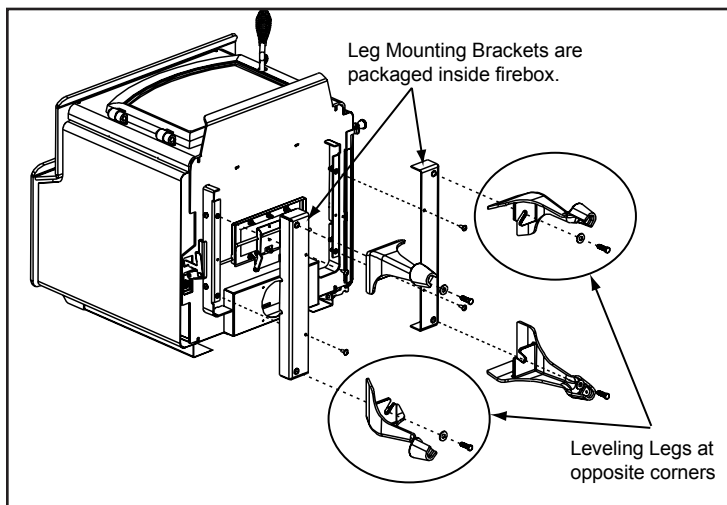

Figure 23.1
3. Loosely assemble bolts into the corner of the mounting brackets for leg attachment. **Figure 23.1**.
4. Slide legs onto mounting brackets making sure the legs are up against the bracket and secure with the bolts supplied. There are leveling bolts in 2 legs. These leveling bolts should be in opposite corners. **Figure 23.1**.